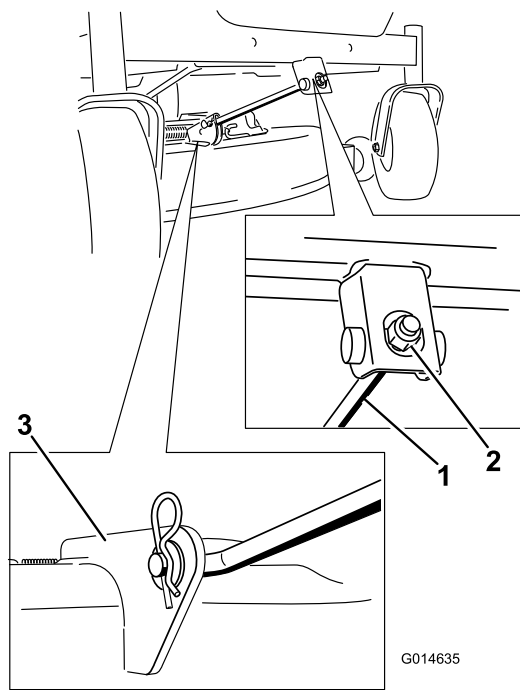

Figure 52
4. Remove the hairpin cotter from the front support rod, and remove the rod from the deck bracket (Figure 52). Carefully lower the front of the mower deck to the ground.
6. Attach the front support rod to the mower deck with the clevis pin and hairpin cotter (Figure 52).